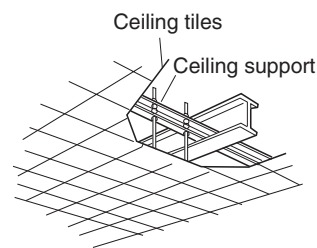

Fig. 3-9
- Use existing ceiling supports or construct a suitable support as shown in the diagram. (Fig. 3-9)